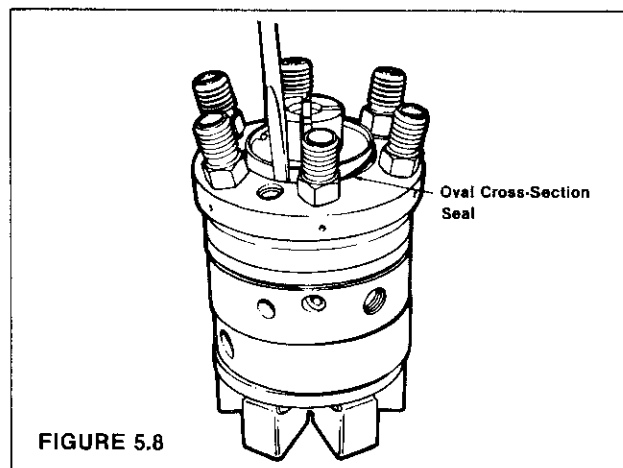

FIGURE 5.8
STEP 8 Install the new transfer pump end cap seal into the hydraulic head (Figure 5.8). This seal has an oval cross section and can be identified by rolling it between the fingers. Be sure to push the seal all the way into its groove.